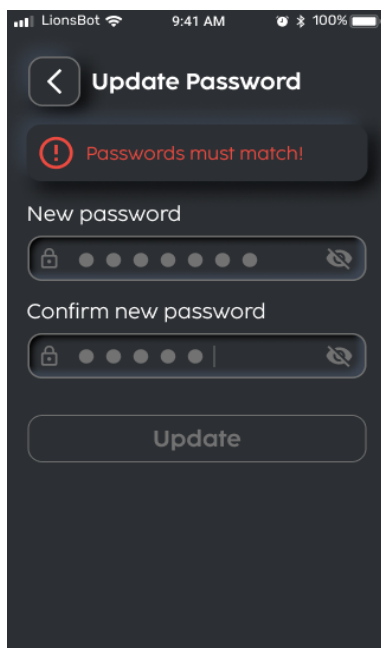

FIGURE 7-8
5. Confirm new password (Fig. 7-8).